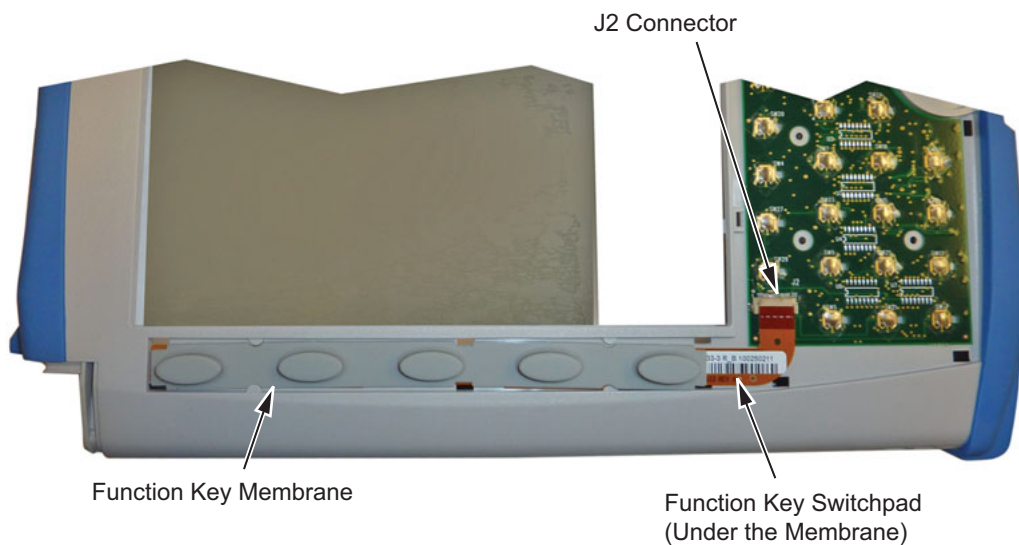

Figure 7-12. Function Key Membrane and Switchpad
4. Remove the function key membrane by gently pulling the membrane up and away from the front panel (Figure 7-12).
5. Disconnect the function key flexible switchpad from J2 of the keypad PCB by carefully lifting the locking tab on connector J2 to release the flexible switchpad (Figure 7-12).